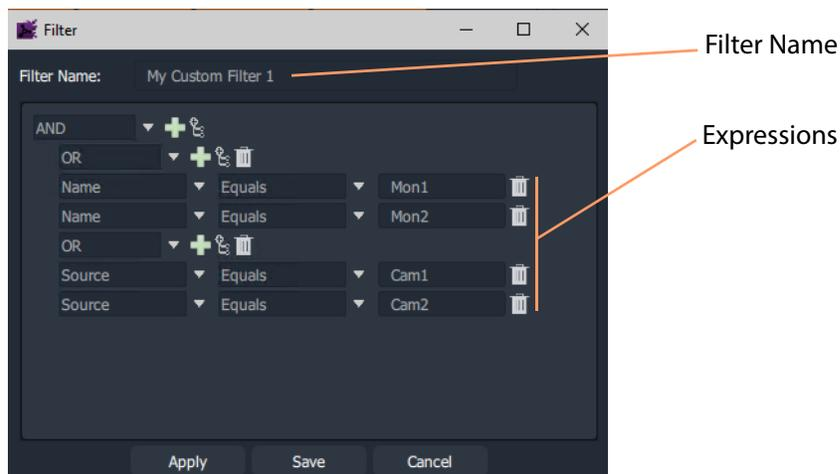

Fig. 5-62: Completed Custom Filter
- 9 Set up the expressions as shown in Figure 5-62.